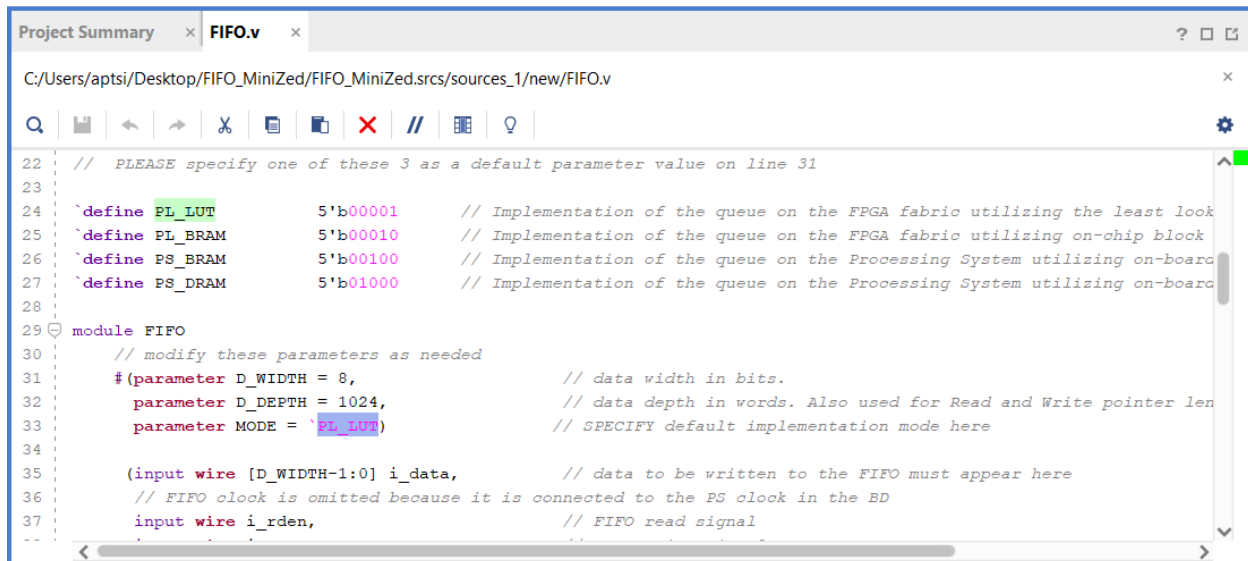

Figure 6: updating implementation mode
Step 4: now, you are going to open the top-level module of the FIFO (Fig. 6) which contains the rest of the code under it in *Vivado*'s file hierarchy. If you take a look at *line 33*, it is already set to compile as *PL_LUT*. For the sake of demonstration, let us change to *PL_BRAM* and proceed. To compile the FIFO in *PL_BRAM* implementation mode, update the code on *line 33*, from